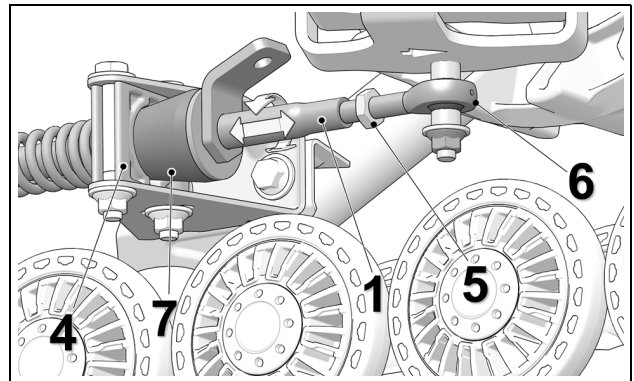

Figure 15
- Loosen jam nut (5). Turn stabilizing arm (1) to adjust length of rod end (6) so that rubber cone (7) applies light pressure on anti-rotation retainer (4). Figure 15.